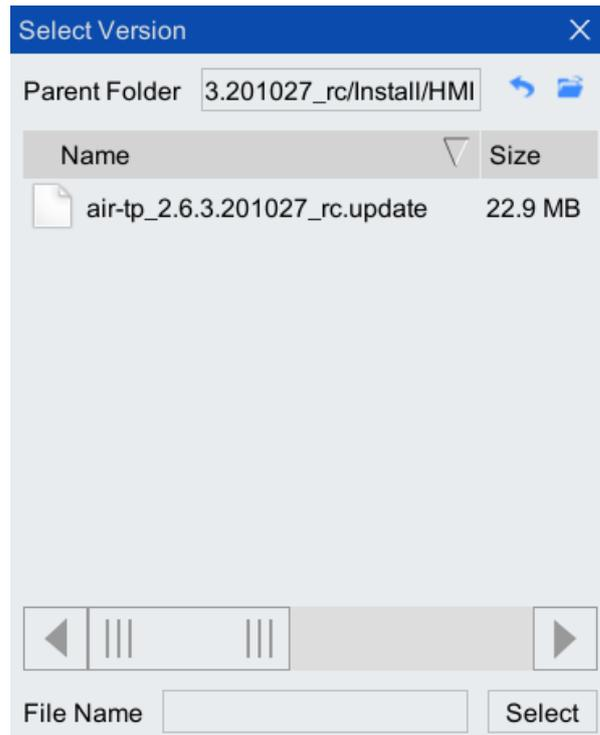
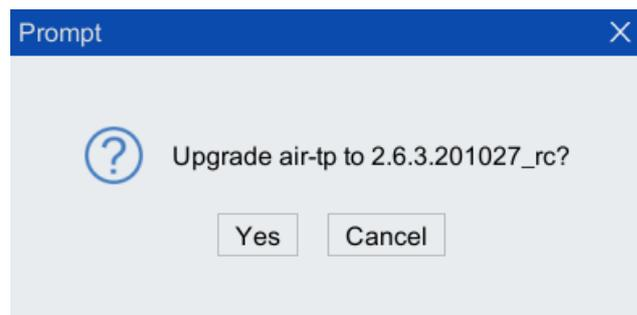
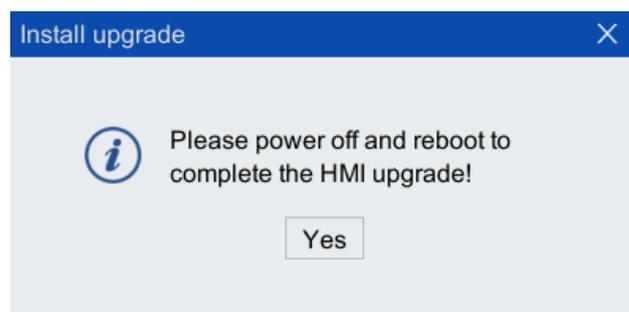

Figure 8-37 Path where HMI upgrade file is located
Figure 8-38 "Upgrade HMI to the corresponding version" dialog box
Figure 8-39 "Power off and restart to complete HMI upgrade" dialog box
Step2. As shown in Figure 8-37 switch the path to the path where the HMI upgrade file is located, select the HMI upgrade file, click <Select> button to pop up "Upgrade AIR-TP to ****?" dialog box in Figure 8-38, and click <Yes> button. When "Please power off and reboot to complete the HMI upgrade!" dialog box in Figure 8-39 pops up, click <Yes> button to restart the control cabinet to complete the HMI upgrade.